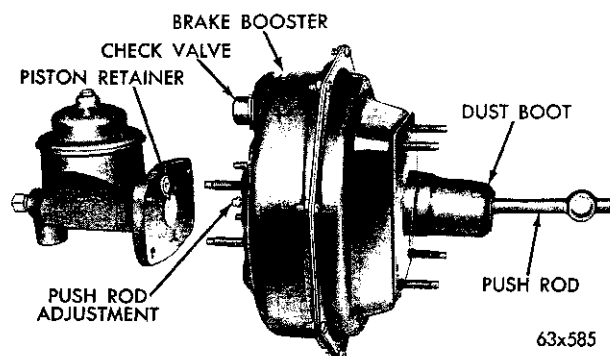

Fig. 15A—Brake Booster and Master Cylinder
(1) A vacuum power section which is composed of a front and rear housing, a power diaphragm, a return spring and a push rod (Fig. 15A).
(2) A control valve built integral with the power diaphragm and connected through a valve rod to the brake pedal and controls the degree of brake application or release in accordance with the pressure applied to the brake pedal.
(3) A master cylinder attached to the vacuum power section contains all the conventional elements except the push rod which is a part of the brake booster.